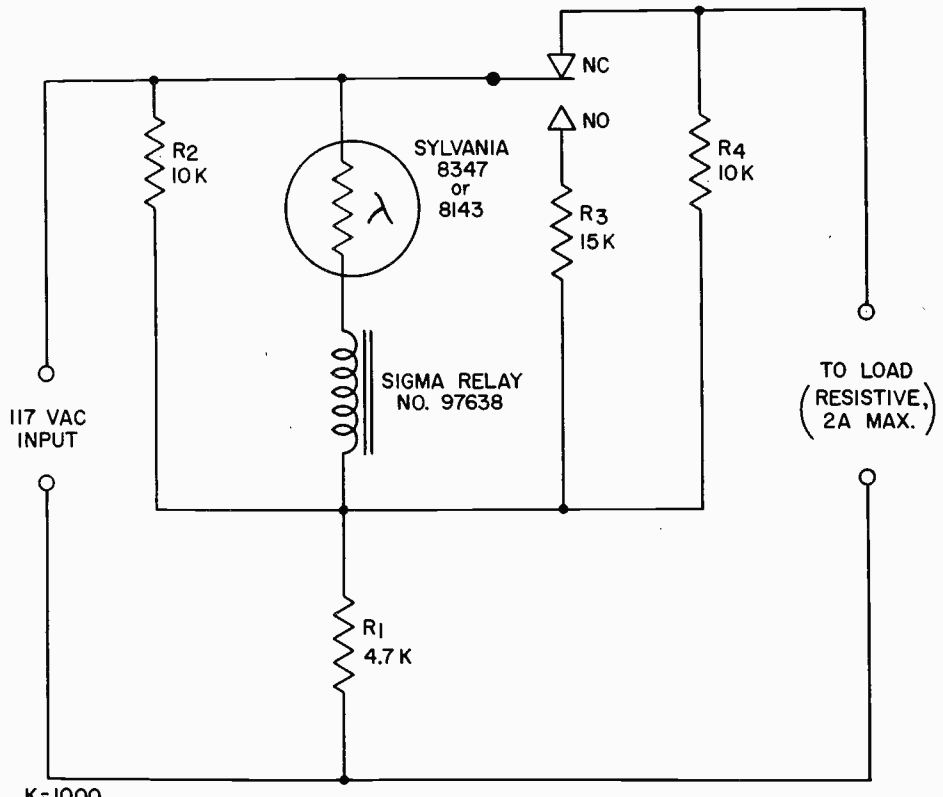

Figure 1—Automatic Lighting Control.
The circuit of a basic automatic lighting control designed to operate from 110 vac is presented in Figure 1. With the components specified the load circuit will close at an ambient light level of approximately 2 foot-candles (FC) and open at 5 FC. The